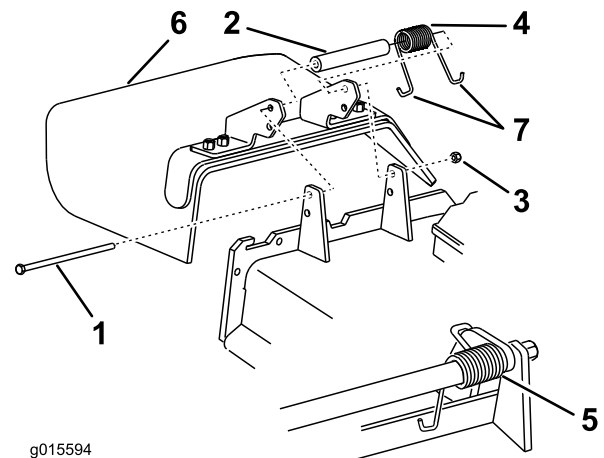

Figure 84
1. Remove the locknut, the bolt, the spring, and the spacer holding the deflector to the pivot brackets (Figure 84).
2. Remove the damaged or worn grass deflector (Figure 84).
Note: Make sure one **J** end of the spring is installed behind the deck edge before installing the bolt as shown in Figure 84.
6. Place one **J** hook end of the spring around the grass deflector (Figure 84).